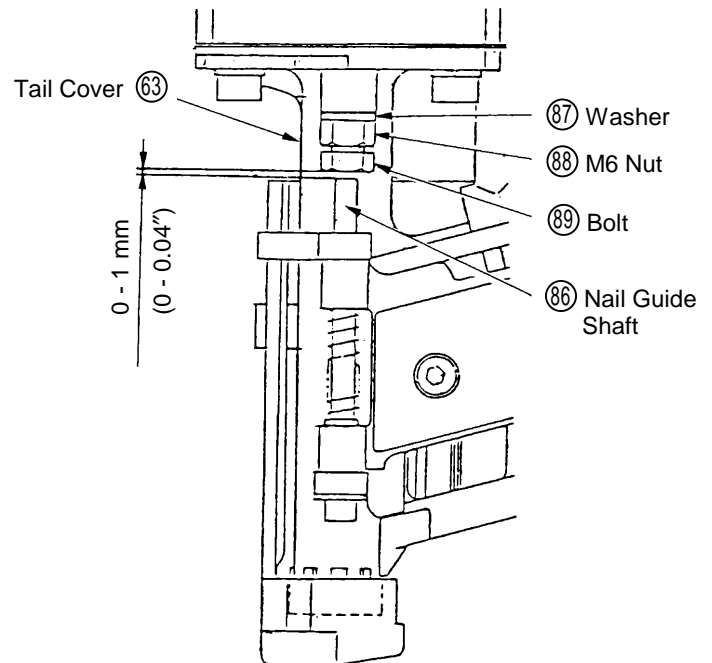

Fig. 18
- Prior to reassembly, thoroughly remove any tar or dirt which may be stuck on the Guard (32) or on the sliding portion of the Feeder (34).
- Assemble the Feeder Shaft Ring (36) onto the Feeder Shaft (35) so that the chamfered inner surface is facing toward the Feeder Spring (33) side.
- Ensure that the hooked portions at both ends of the Feeder Spring (33) are properly inserted into the provided grooves on the Feeder (34).
- Prior to reassembly, coat grease (Hitachi Motor Grease No. 29, Code No. 930035, is recommended) on the O-Ring (1P-9) (65), the Feed Piston O-Ring (66) (68), and the O-Ring sliding portions of the Feed Piston (67) and Tail Cover (63). However, as excessive grease will cause improper movement of the Feed Piston (67), be very careful during grease application. (This is particularly important if the tool is to be used at relatively low air pressures.)
- Carefully clean the air passage of the Tail Cover (63). Any dust or foreign matter in the air passage will cause malfunction of the Feed Piston (67).
(3) Disassembly and Resassembly of the Bolt (89) (for driving depth adjustment) : (Refer to Fig. 18)
- After pushing the Nail Guide Shaft (86) up to its highest possible position, tighten the M6 Nut (88) to the Tail Cover side so that the clearance between the Bolt (89) and the Nail Guide Shaft (86) becomes 0 - 1 mm (0 - 0.04"), as illustrated in Fig. 18.
- If the Bolt (89) is positioned higher than the tolerance prescribed above, it may push up the Piston Damper (28) and cause air leakage. Be very careful to ensure correct assembly.